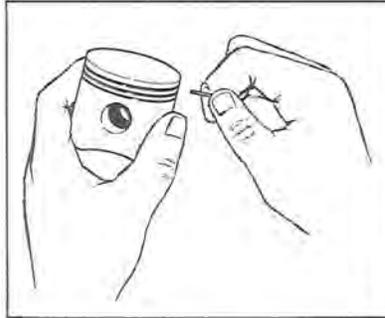
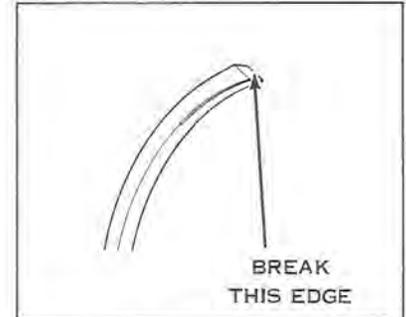

Figure 8-8
Figure 8-9
- a. Carefully remove carbon deposits from piston head. Inspect ring grooves for carbon accumulation, excessive wear, or damage to ring seats. Carefully scrape carbon from ring grooves (see Figure 8-8), making certain that carbon clinging to bottom and sides of grooves has been thoroughly removed, without scratching or otherwise damaging the grooves. A suitable tool for cleaning ring grooves can be made by breaking an old piston ring, grinding an angle on the edge, and breaking the lower sharp edge to prevent damage to lower ring land (see Figure 8-9).